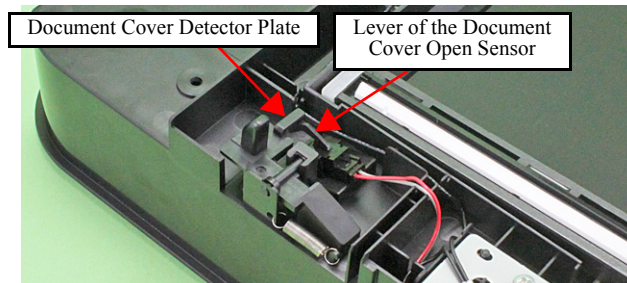

Figure 9-31. Installing the Document Cover Open Sensor
- After installing the Document Cover Open Sensor, make sure the Document Cover Detector Plate shown in Fig. 9-31 is on the lever of the Document Cover Open Sensor.